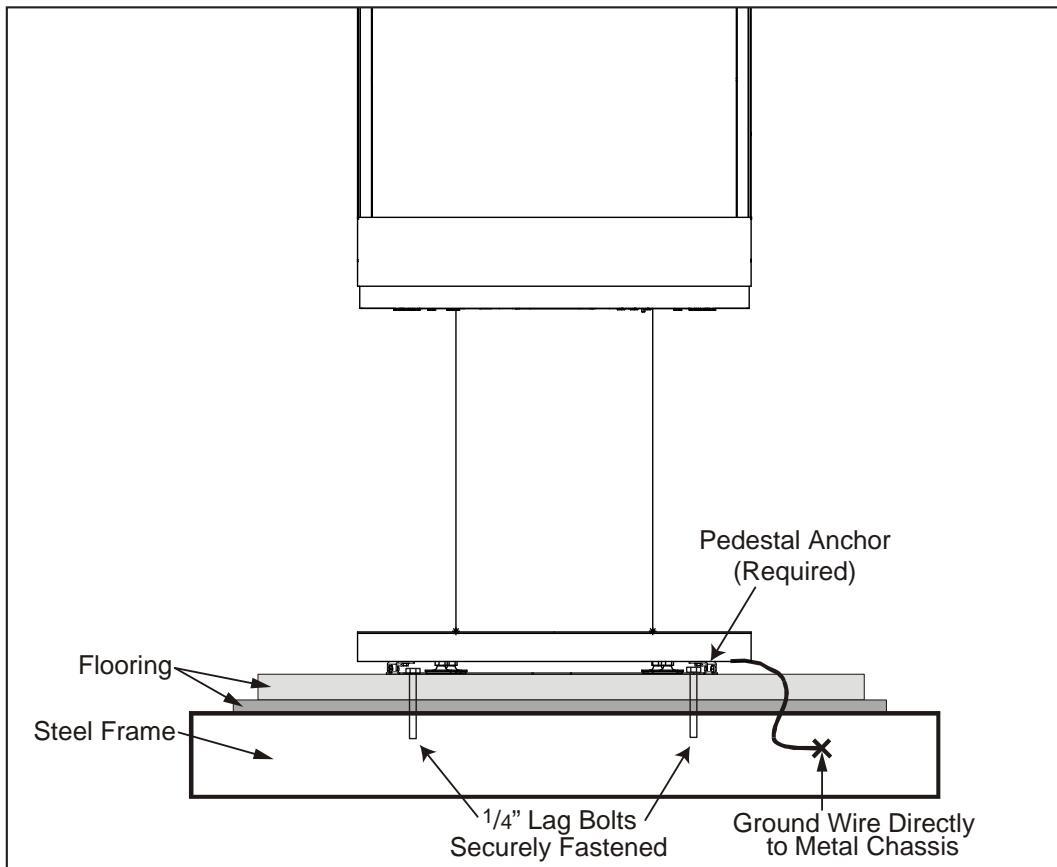

Figure 81: Correct Mobile Home Installation
The wood pedestal comes packaged with four (4) hex head bolts and four (4) washers used to secure the pedestal onto the unit. Fasten the wood pedestal to the unit using the same threaded holes that the leveling legs were installed (see Figure 81).